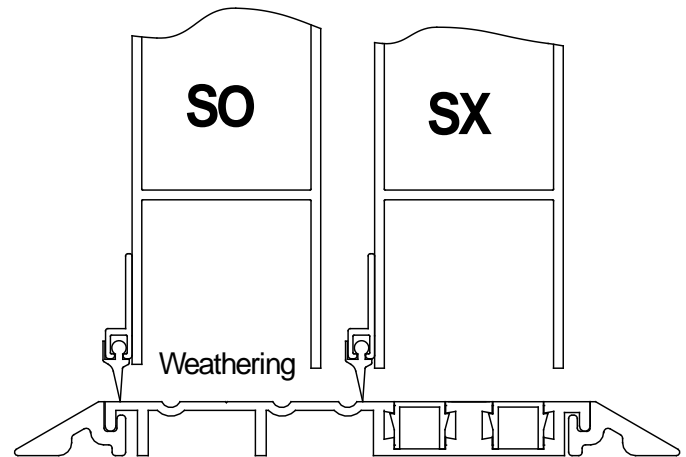

Figure 32
2. Locate the “L” shaped weathering on the outside of the door along the bottom edge with the vinyl located under the door. (See Figure 32) The edge of the extrusion should start just at the curve of the front edge of the door. Mark the three slots of the extrusion on the door. Drill three 1/8 inch mounting holes.